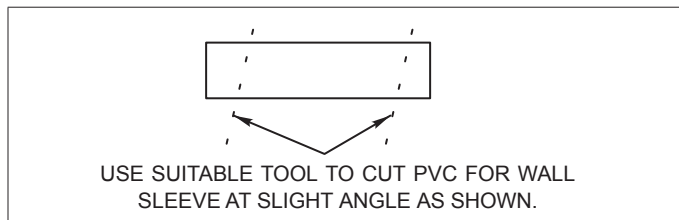

Figure 14. Boring Hole for Wall Sleeve
- When prevailing wind is into the discharge side, then position the wind barrier a minimum 79 inches (2007 mm) from the front of the unit as illustrated in Figure 14. Wind Barrier”